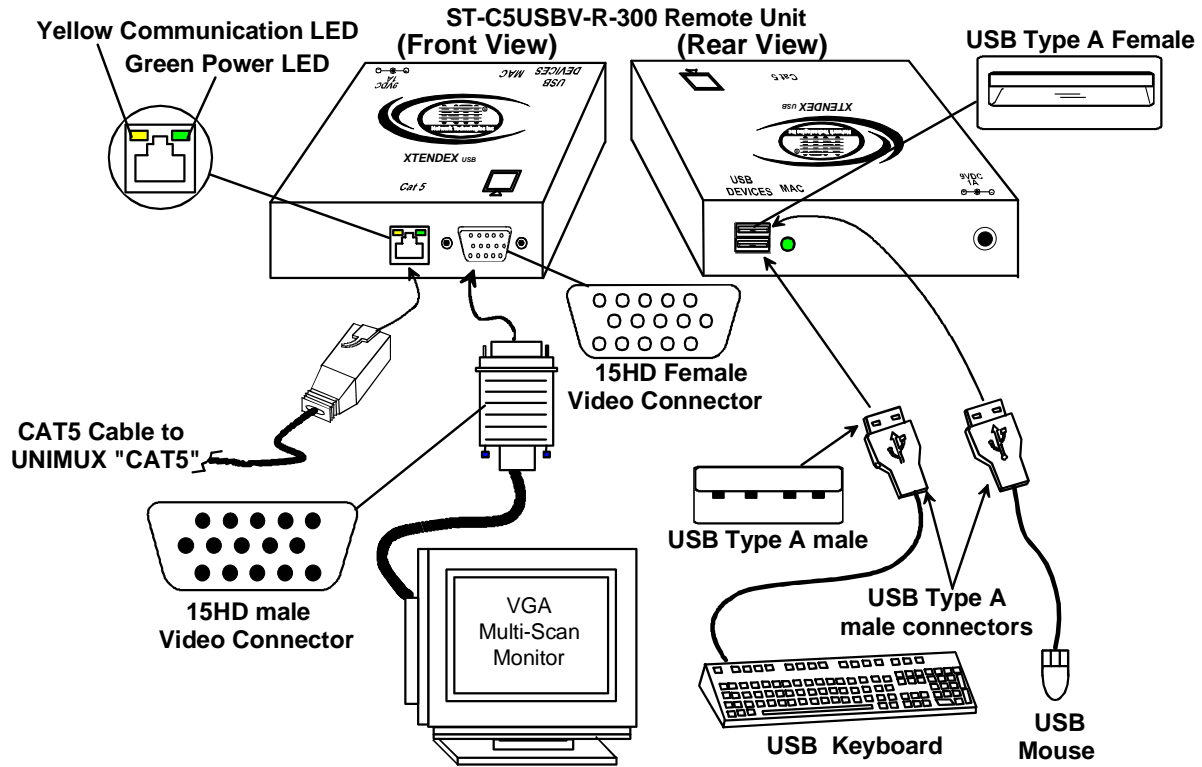

Figure 12- Connect monitor and devices to ST-C5USBV-R-300
2. Connect the monitor cable to the 15HD female VIDEO port on the ST-C5USBV-R-300. (See Figure 12)
- Turn ON the monitor. The monitor should have the same image on it as the monitor directly connected to the UNIMUX. The yellow communication LED on the Remote Unit (see Figure 12) should blink indicating there is proper communication with the UNIMUX.